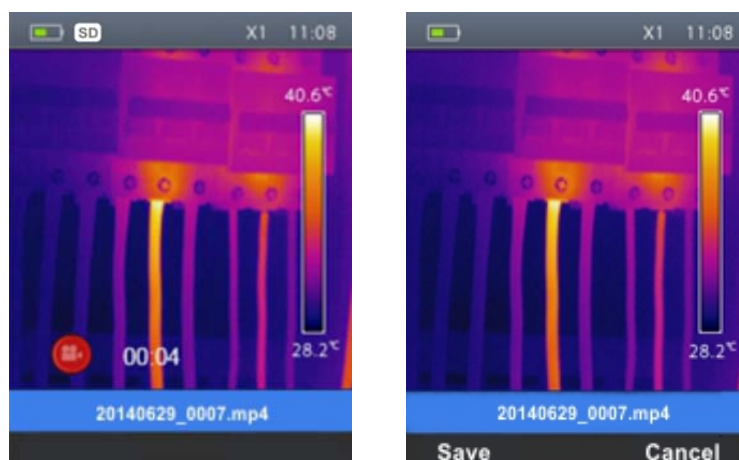

Fig. 25: Video recording
4. Press and hold the **T** (Trigger) key for some seconds to activate video recording. The message “YYYYMMDD _xxxx.mp4” appears in the status bar and the timer appears at the bottom of the display (see Fig. 25)